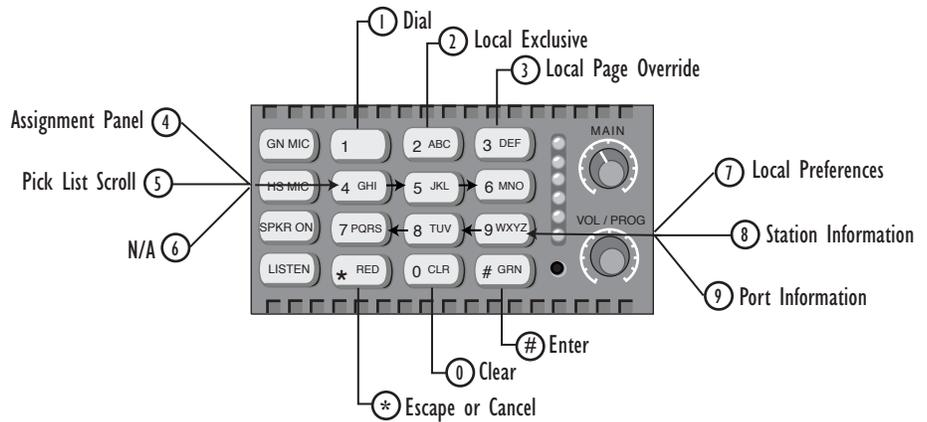

Figure 15: Features Accessed by Keys on the Numeric Keypad
- By pressing the number key associated with the feature. For example, when you press the "1" key on the numeric keypad, you enter "telephone dialing" mode. Figure 15 shows the features associated with each number key on the numeric keypad. A fuller discussion of each feature follows.
Most of the features are available only when a station is connected to the Matrix, but some are available even when a station is not connected to the Matrix. (The requirements for each feature are given in the following sections.) Figure 15 and Table 5 below list features and identify which number keys on the keypad are associated with each.